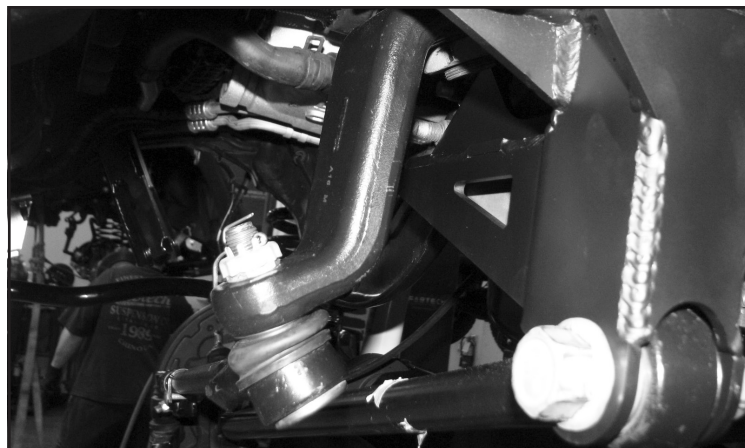

FIGURE 17 - STEP 22
22. Reinstall the track bar to the new frame bracket. Torque to 406 ft-lbs. Install the drag link to the new Fabtech pitman arm using the factory hardware and the new supplied cotter pin. Torque to 129 ft-lbs. **NOTE: The drag link will need to be rotated 180 degrees and installed from the bottom side of the pitman arm. SEE FIGURE 17**